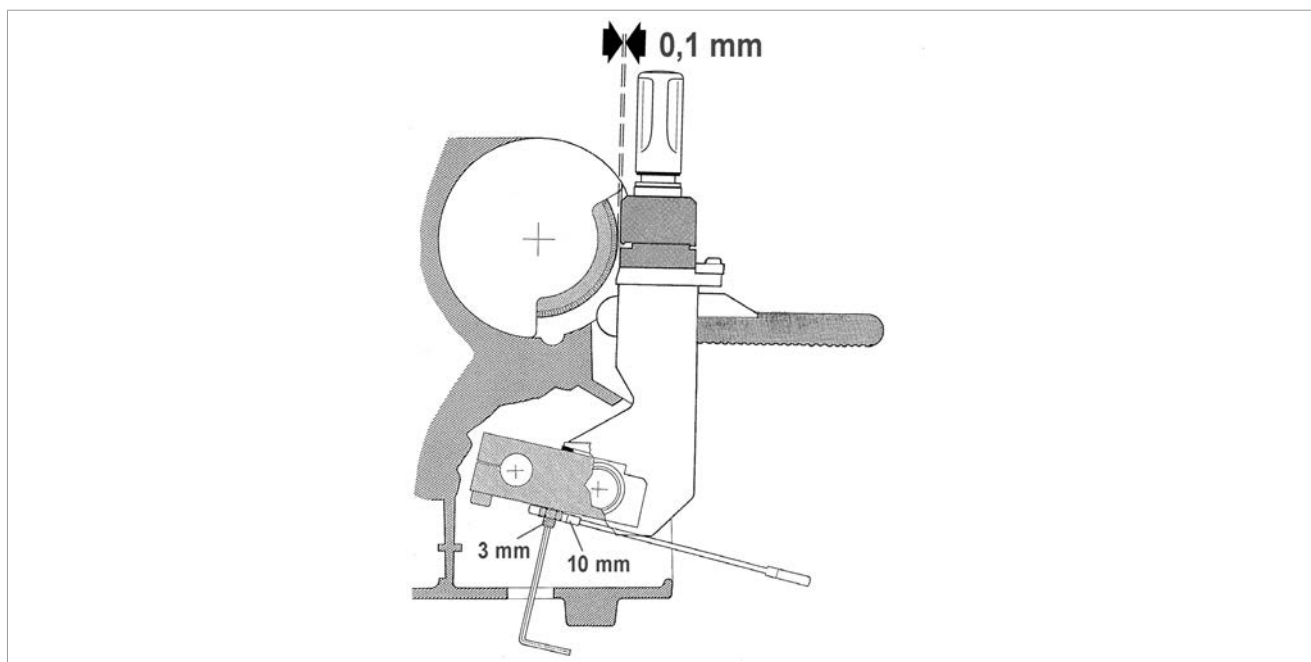

Fig. 29
- 2) Release the carriage and raise (against the cutting tool) at the end of run (Fig. 29).